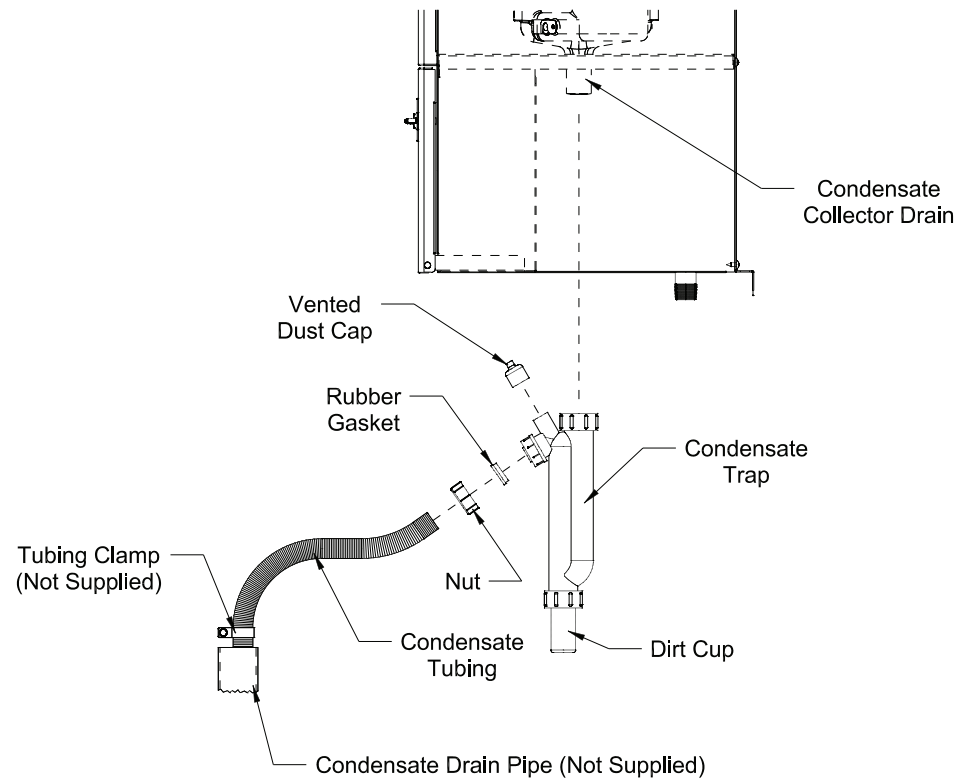

FIGURE 7.51: CONDENSATE PIPING ARRANGEMENT
All condensate which forms in the boiler or vent system collects in the sump under the heat exchanger and leaves the boiler through the condensate trap. This trap allows condensate to drain from the sump while retaining flue gases in the boiler. The trap is supplied loose and must be installed as shown in Figure 7.51. A length of drain hose is supplied with the boiler and is connected to the trap as shown in Figure 7.51. Note the following when disposing of the condensate:
- a) If the condensate drain line must be extended, construct the extension from PVC or CPVC pipe. Insert the hose provided with the boiler into the end of the extension as shown in Figure 7.51.
- f) Do not attempt to move the trap from the location shown in Figure 7.51. Do not attempt to substitute another trap for the one provided with the boiler.
- g) The vent shown in Figure 7.51 must be left open for the trap to work properly.